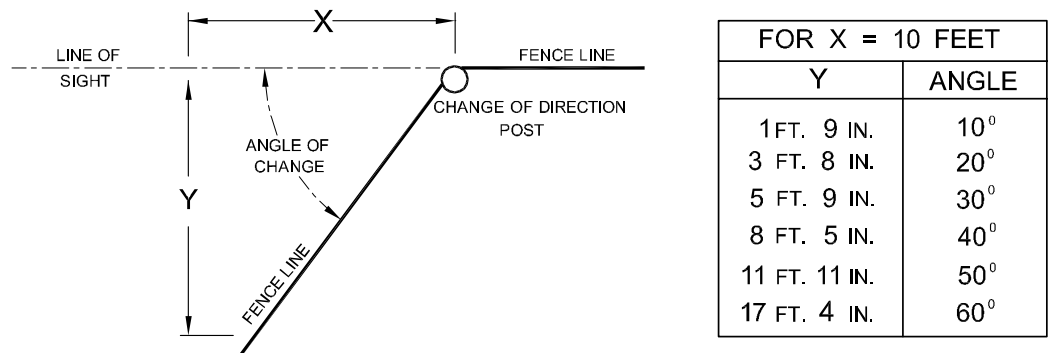

Figure 12 Estimating Fence Line Angle of Change
- can be estimated by the measurements given in Figure 12, below